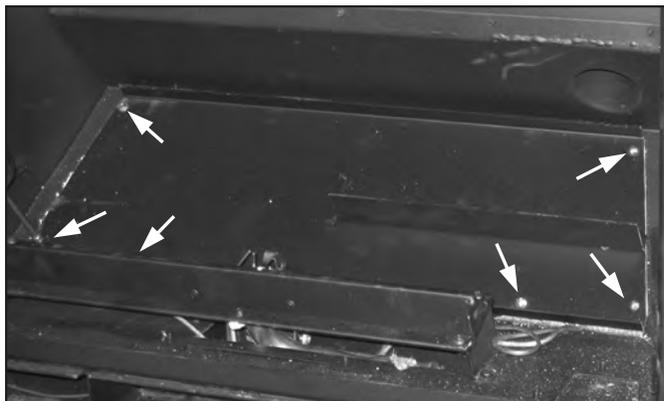
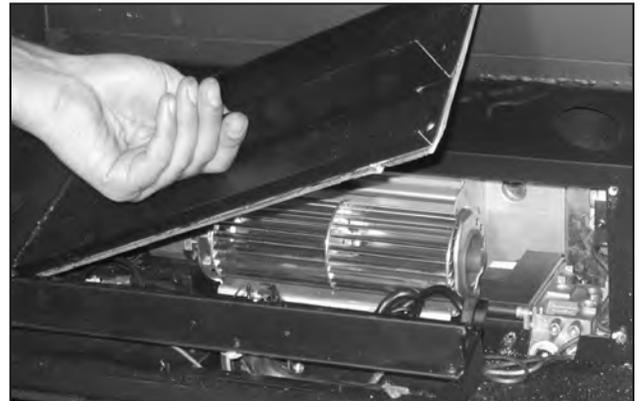

Figure 17: Screws Holding Valve Cover in Place.
Figure 18: Removing Valve Cover.
4. Using a T-20 screwdriver remove the six (6) screws that hold the valve cover in place (pointed out in Figure 17). Pick the valve cover up then out of the firebox (see Figure 18).